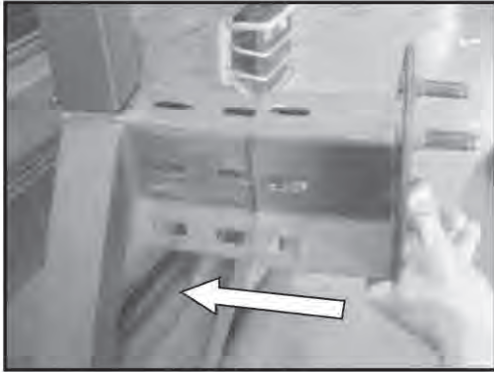

Figure 10
13. Locate Mounting Bracket, (3) 3/8"-24 x 1" Hex Head Bolts, (6) 3/8" Flat Washers, (3) 3/8" Lock Nuts. Slide Tire Support Bracket into Tire Carrier until holes line up and secure it with hardware listed in this step (Figure 10 & 11). **NOTE:** There are two sets of holes on the Tire Carrier; these are used for oversized tires.